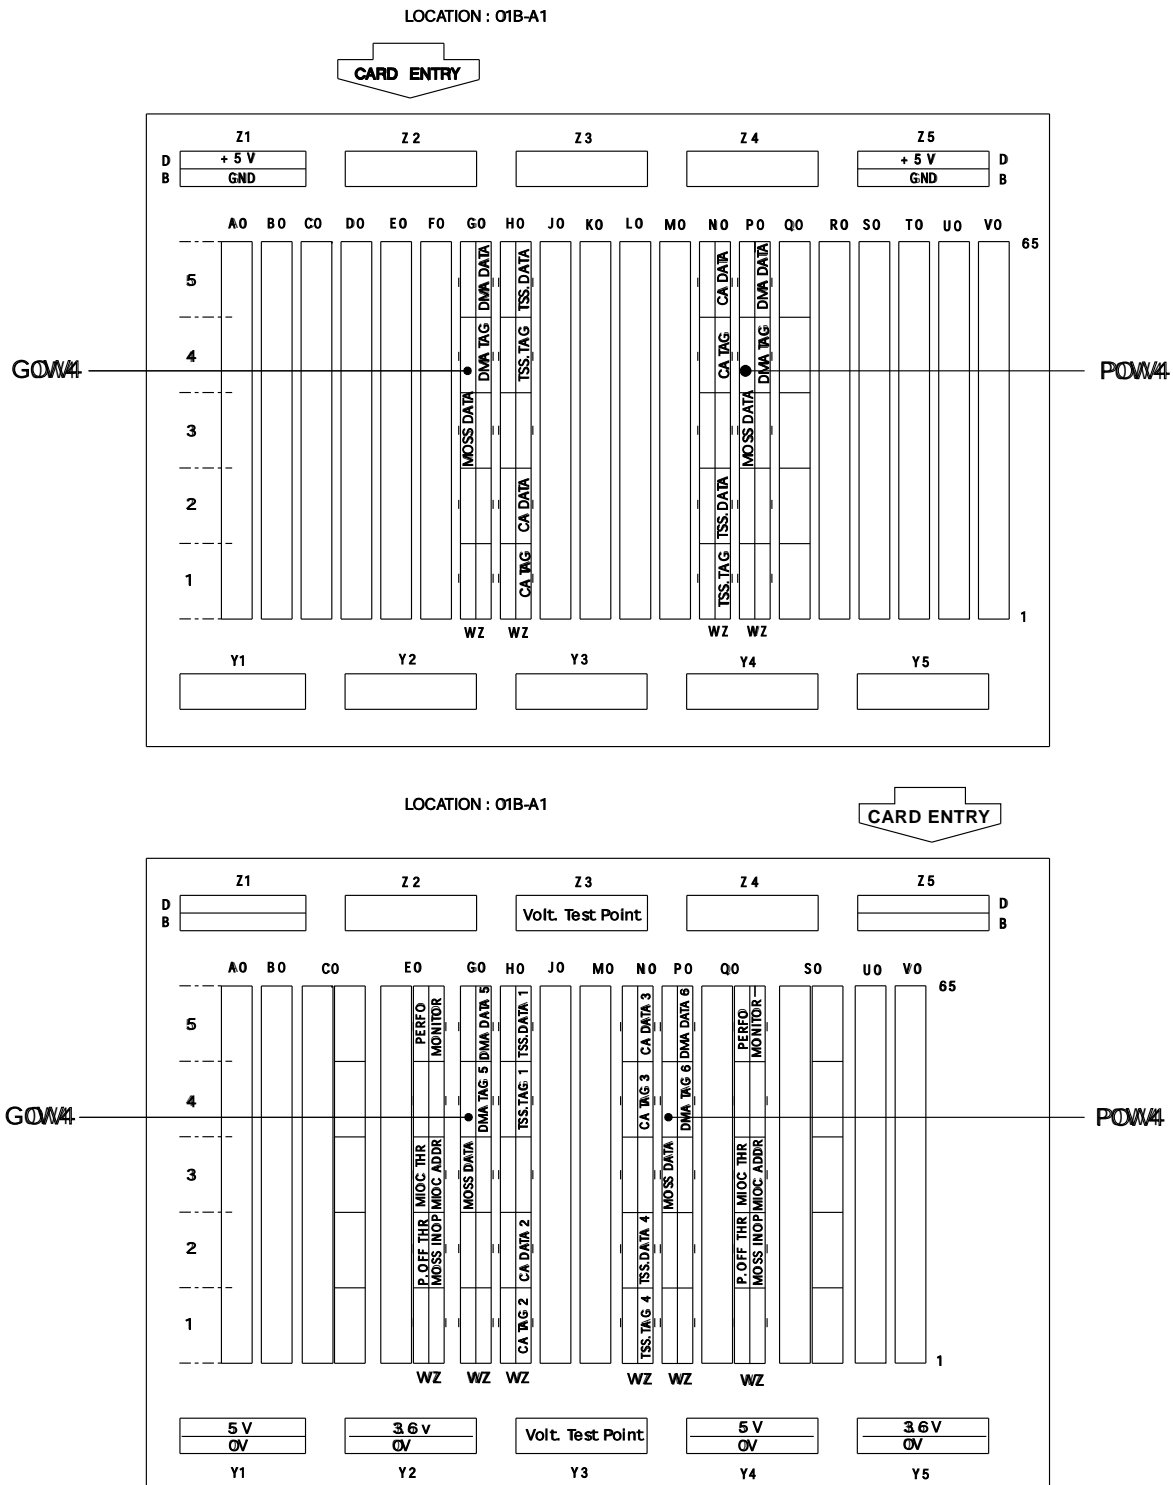

Figure 4-29. SACU Boards for 3745 Model 21A or 41A (Top) 31A or 61A (Bottom)
- Step 10. ____ Using the tool PN 71F9877 remove the dummy connectors in locations POW4 and GOW4 of the SACU board (see Figure 4-29 on page 4-29).